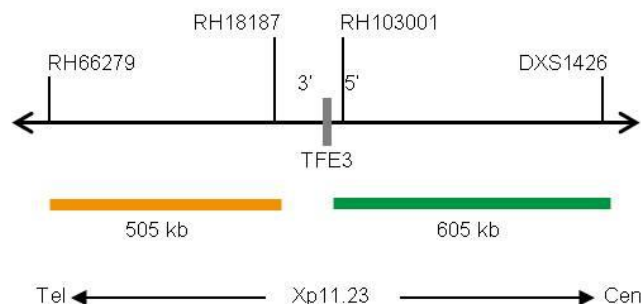

Fig. 1: SPEC TFE3 Probe map (not to scale)
- ZyGreen (excitation 503 nm/emission 528 nm) labeled polynucleotides (~10.0 ng/μl), which target sequences mapping in Xp11.23* (chrX:48,906,685-49,509,699) proximal to the TFE3 breakpoint region (see Fig. 1).
- ZyOrange (excitation 547 nm/emission 572 nm) labeled polynucleotides (~4.5 ng/μl), which target sequences mapping in Xp11.23* (chrX:48,287,169-48,792,674) distal to the TFE3 breakpoint region (see Fig. 1).